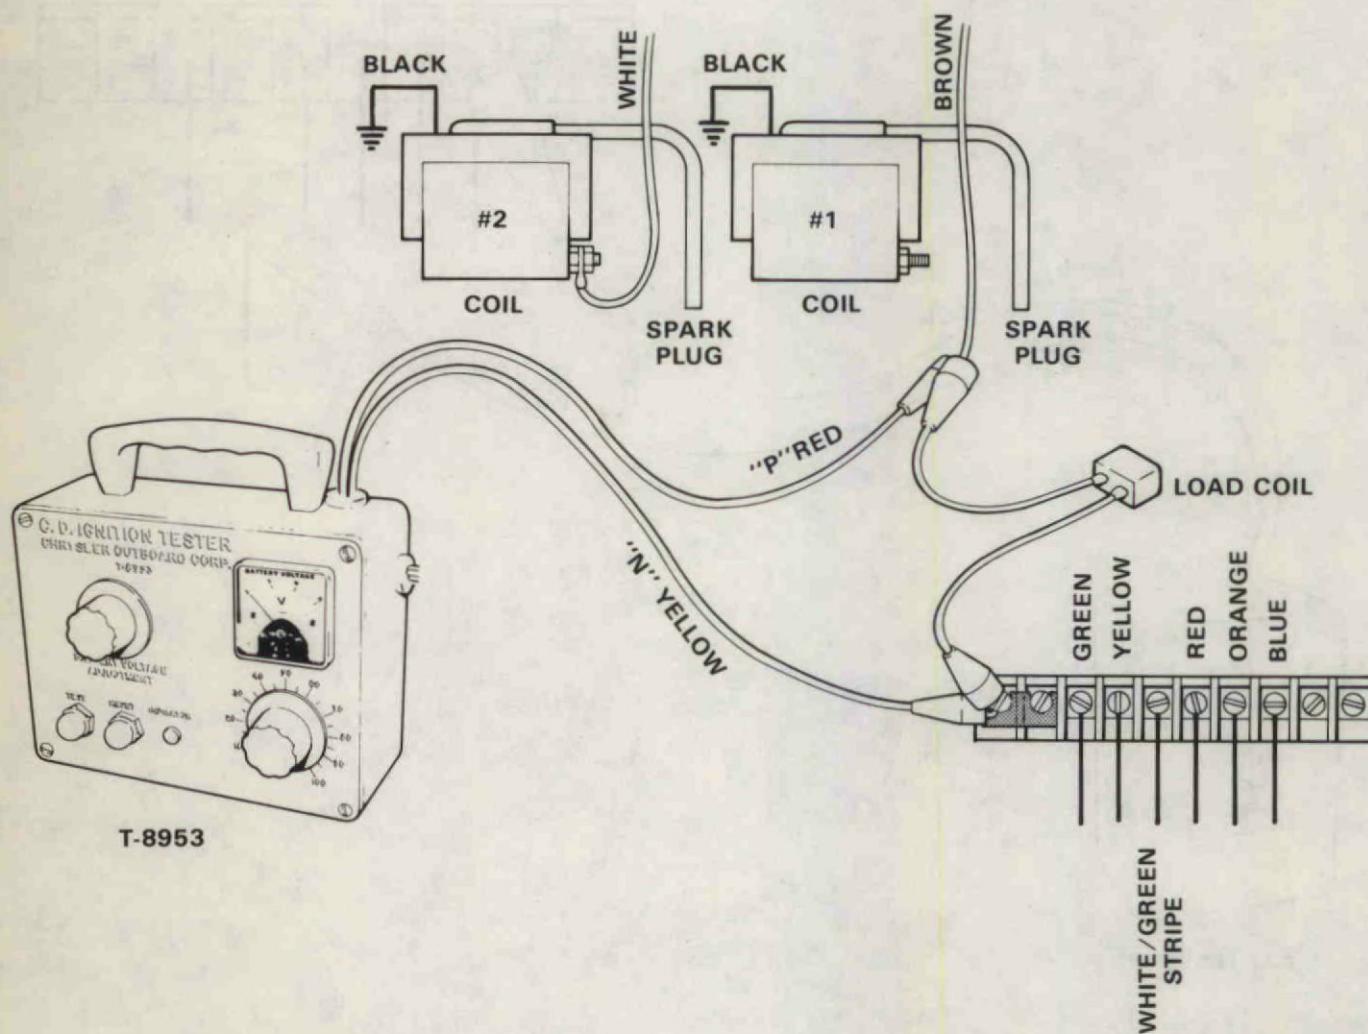

Figure 9
2. Clip one lead of load coil to brown wire from C-D unit. Clip other load coil lead to ground terminal at terminal block, Figure 9.
C-D unit (same wire as load coil in Step #2), Figure 9.
4. Connect Tester "N" lead (yellow) to ground terminal, Figure 9.